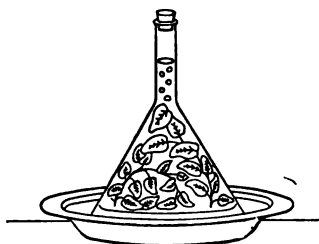

FIG. 46.
M. That is not difficult. We take a large glass funnel, fill it with fresh green leaves, and place it upside down in a wide vessel full of fresh water. Then we sink it so deep as to fill it completely with water, and we close the opening with a cork. Then we expose it to sunlight (Fig. 46).